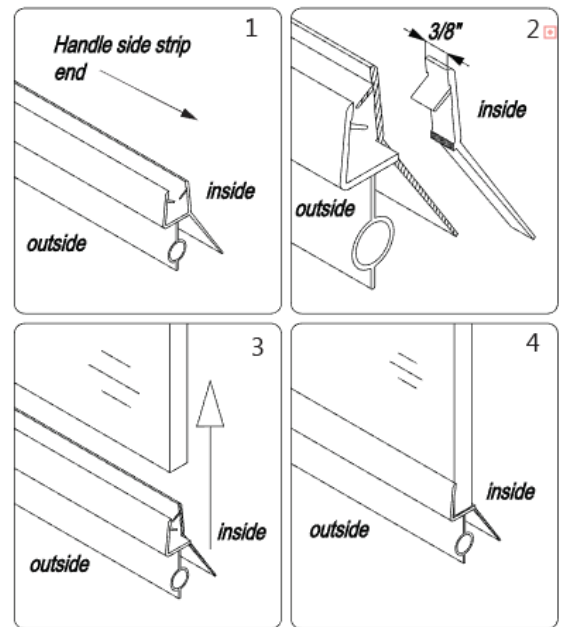

Fig. 11
10. Measure the bottom of the **Door Glass (02)** from end to end to determine the actual width. Using a razor knife, cut the **Bottom anti-water strip (13)** to the size of your measurement and notch $3/8"$ off of the inner side of the **Bottom anti-water strip** as shown in Fig. 11.2. Press the **Bottom Anti-water strip** tightly onto the bottom edge of the **Door Glass (02)**. See Fig. 11 for details